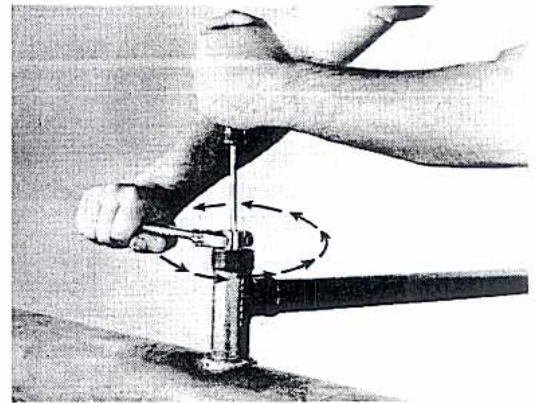

FIGURE 20
4. Hold the stem in the closed position with the screw driver in one hand and **BACK OFF** the bronze bushing with a wrench held in the other hand. (Do not permit the stem to turn, however, turn the bushing approximately two full turns **counter-clockwise**.) Differential threads provide the seating force. FIGURE 20.